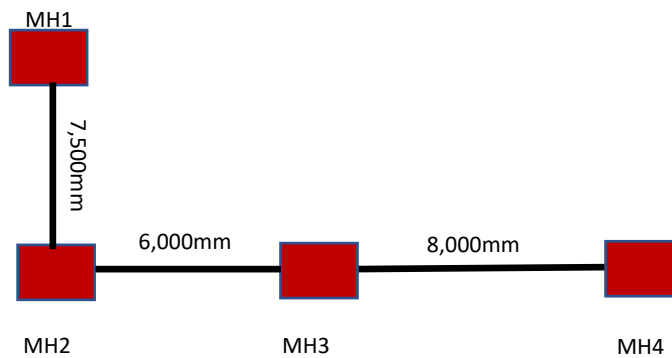

Figure 2: Manhole diagram
- (c) Manhole 1 has a size of 750mm x 600mm and its depth is 900mm. The size of the pipe (sewer) used is 225 mm. Calculate the depth and determine the size of manholes 2,3 and 4 by referring to Figure 2, Table 2 and Table 3.